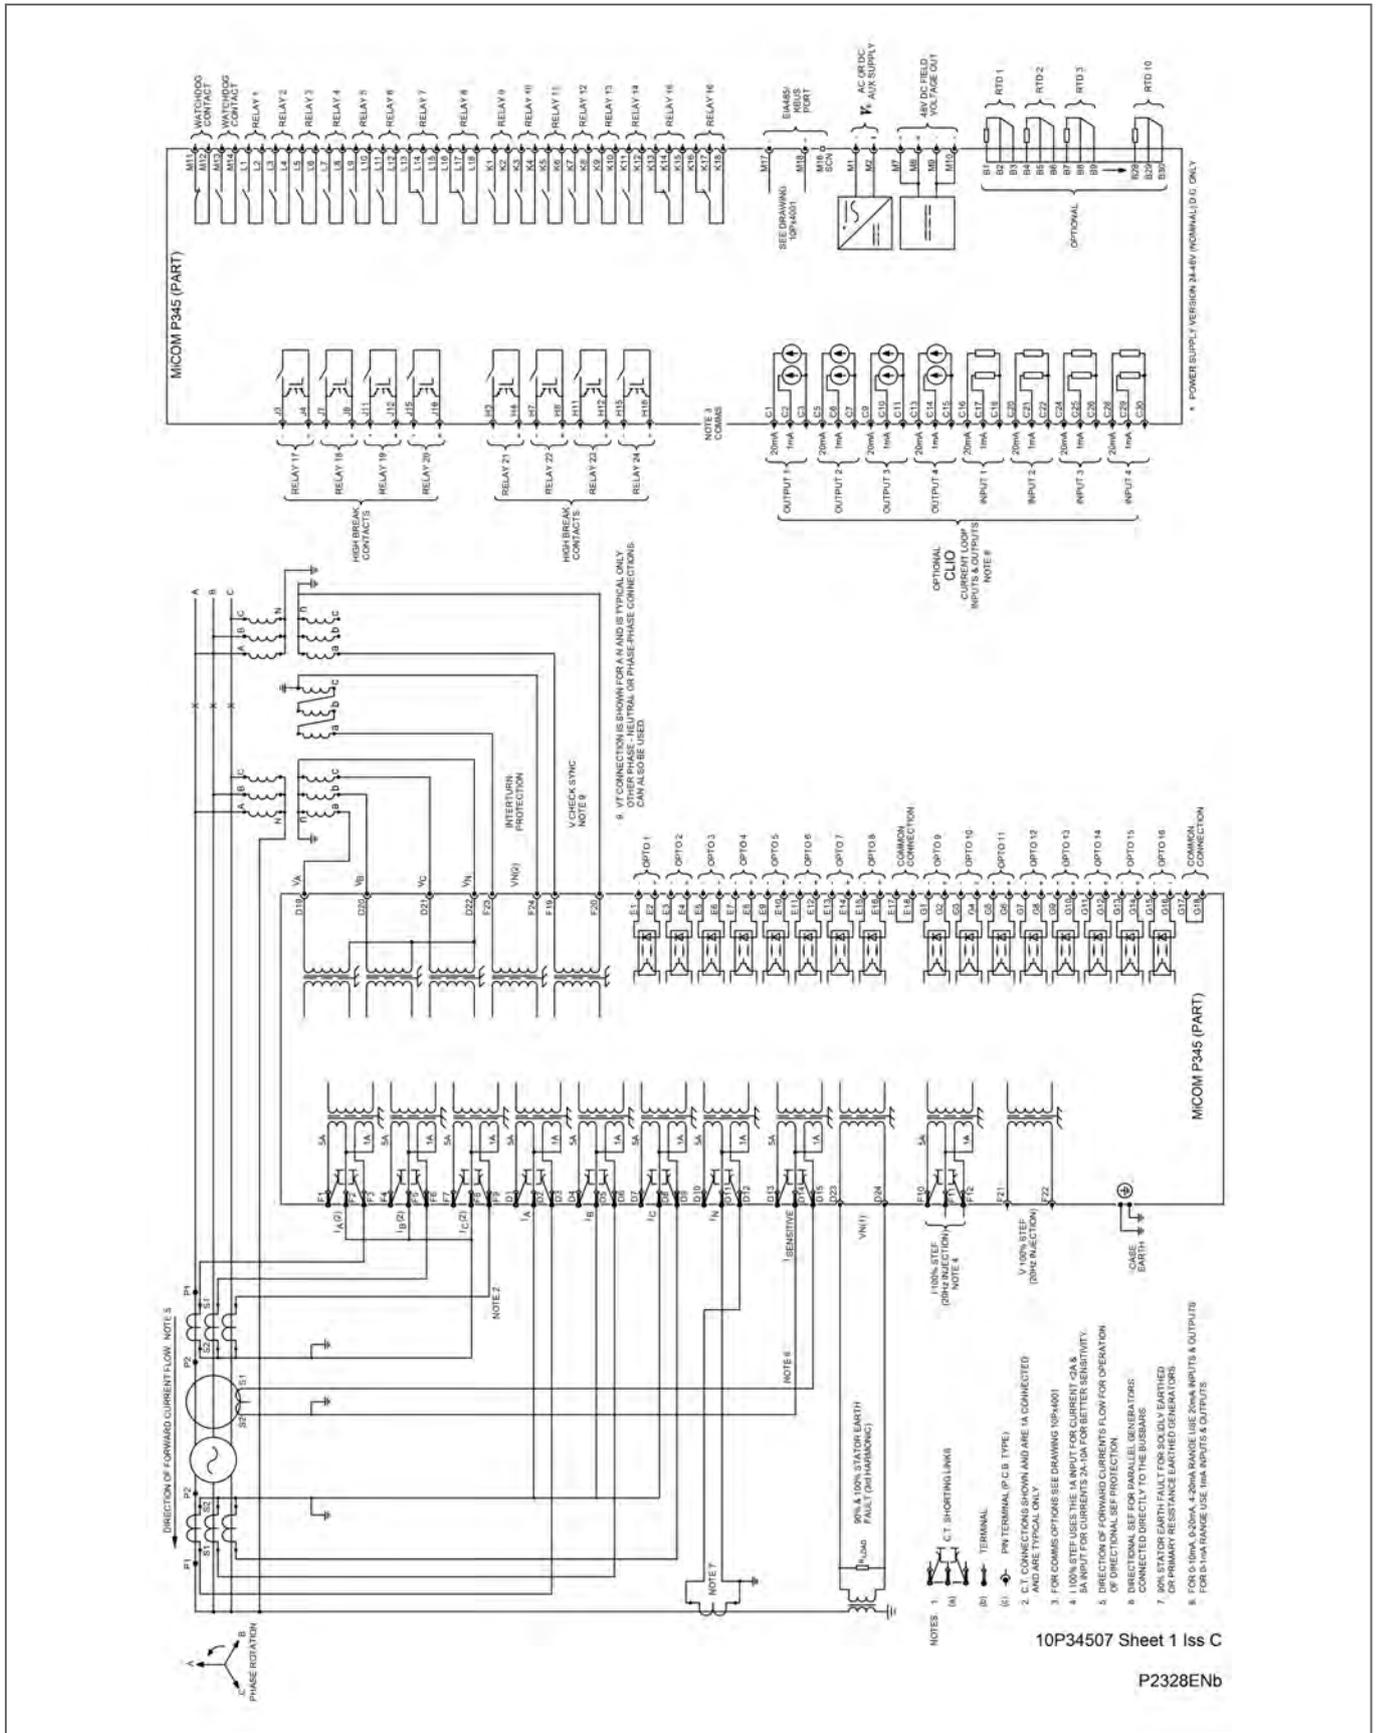

Figure 91 - P345 (80TE) with 90% & 100% (3rd Harmonic) stator earth fault & interturn protection (16 I/P & 24 O/P (8HB) & CLIO & RTD)
- Figure 91 - P345 (80TE) with 90% & 100% (3rd Harmonic) stator earth fault & interturn protection (16 I/P & 24 O/P (8HB) & CLIO & RTD)